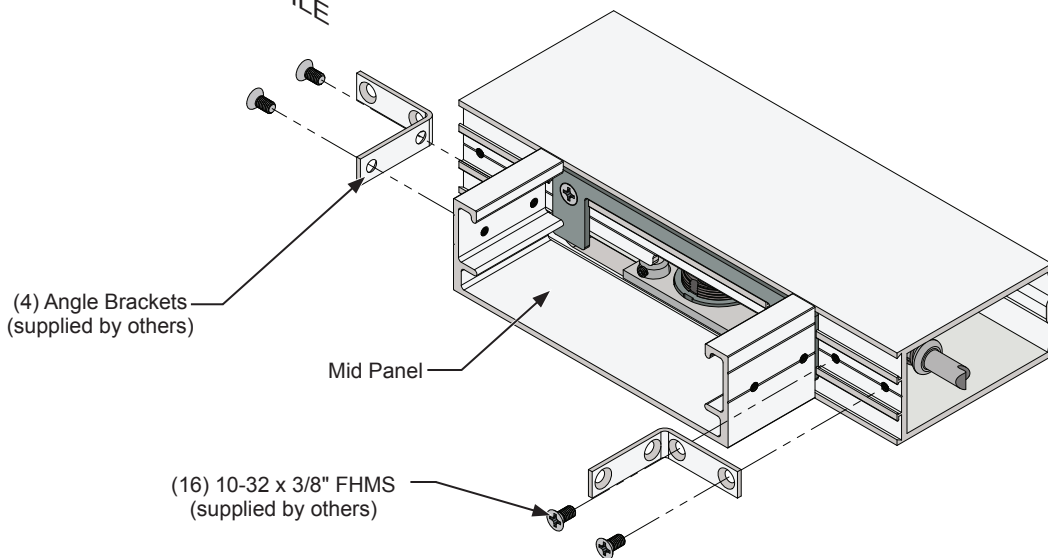

FIG. 13
2. Attach the Mid Panel to the door Stiles with (4) angle brackets (supplied by others) and (16) 10-32 x 3/8" Flat Head Machine Screws (supplied by others). (Fig.13)